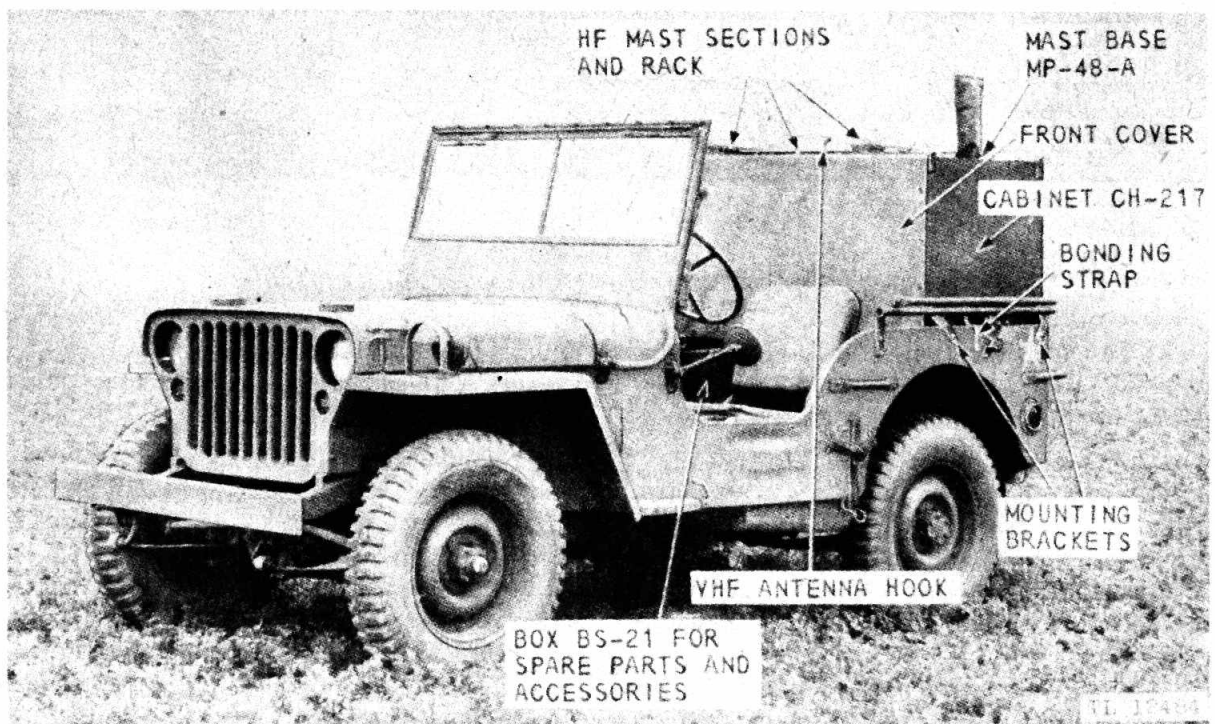
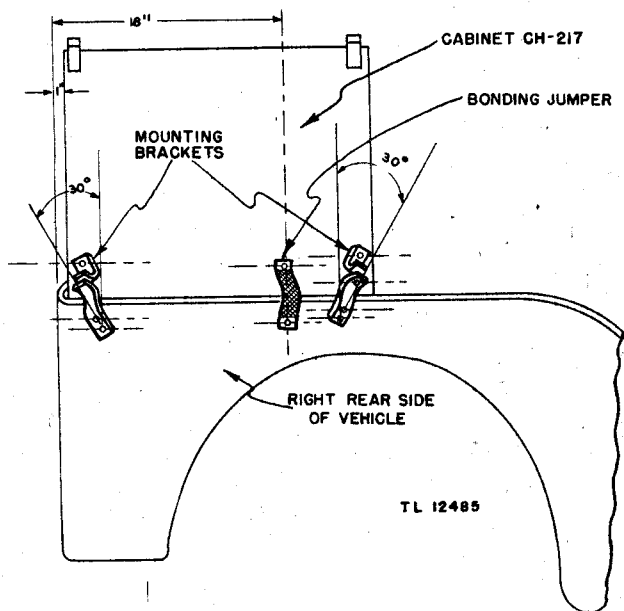

Figure 5. Radio Set AN/VRC-1 with antennas dismantled and protective covers in place.
Figure 6. Mounting and drilling details for Radio Set AN/VRC-1.
5. **CABINET CH-217.** Place Cabinet CH-217 in the rear of the vehicle and secure with the four brackets provided, 2 on each end (fig. 5). In order to reduce radio noise interference caused by the vehicle's electrical system, Cabinet CH-217 must be bonded to the vehicle by means of the bonding jumpers provided (one on each end of the cabinet). Drilling detail for the necessary holes is shown in figure 6. For complete installation details, refer to installation drawings accompanying this equipment.